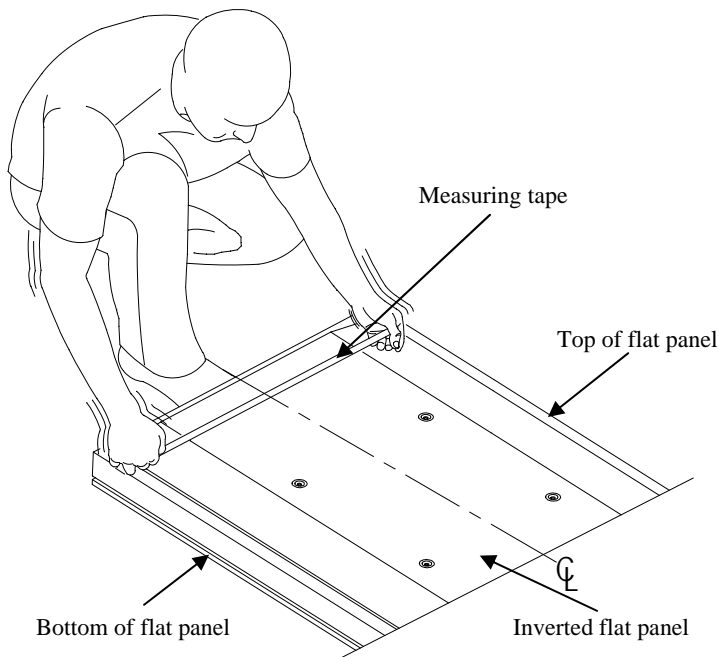

Figure 4
1. Once the flat panel is inverted, use a measuring tape to find the center of your flat panel measuring from outside to outside of the flat panel (Figure 4).